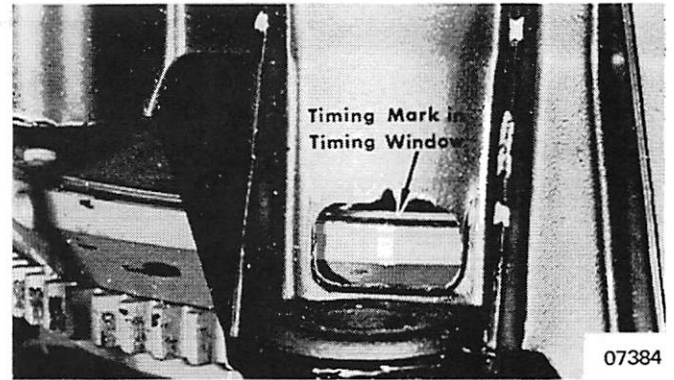

Figure 7. Setting Maximum Spark
4. Advance engine speed to 5000-5200 RPM. Adjust spark stop screw to align flywheel timing mark (white bar) in timing window. Tighten locknut. (Figure 7)